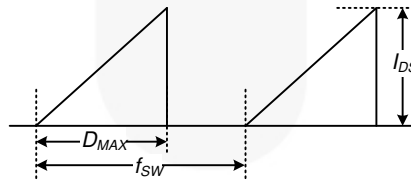

Figure 4. Repetitive Peak Switching Current
- Repetitive peak switching current when the inductive load is assumed: Limited by maximum duty (DMAX=0.74) and junction temperature (see Figure 4).